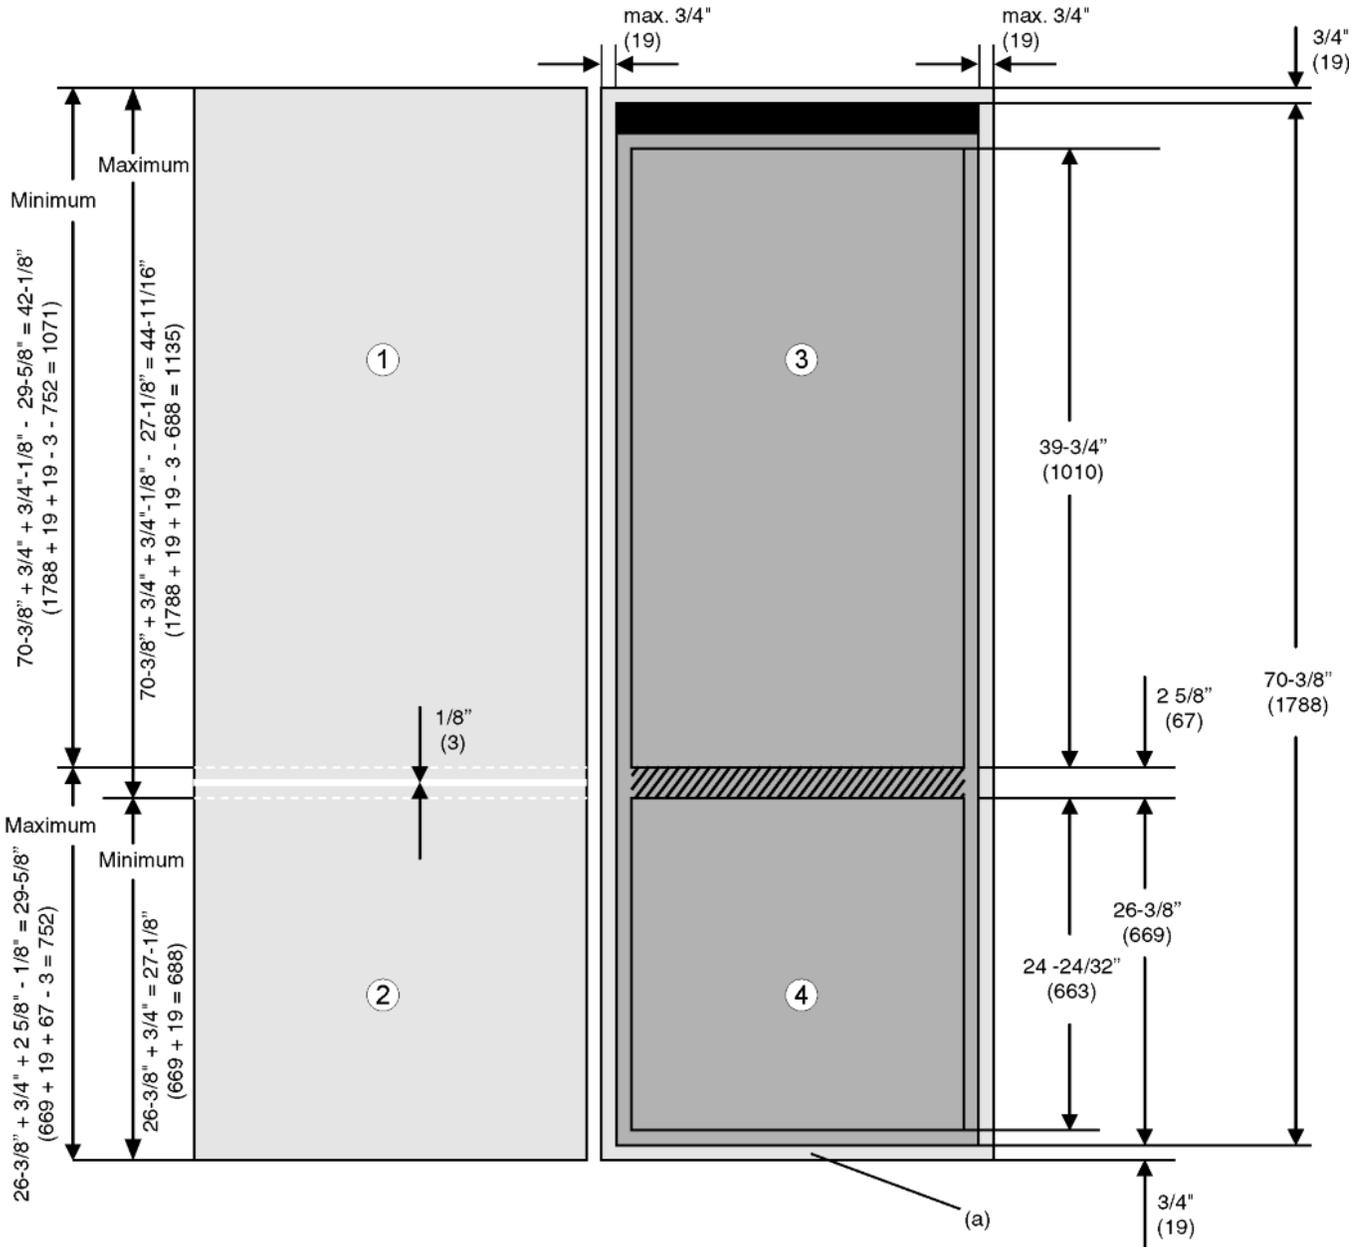

Fig. 4
► In order to cover the front of the floor plate Fig. 4 (a): extend the plate height to 26-3/8 in. (669 mm).
► In order to cover the front of the floor plate Fig. 4 (a): extend the plate height to 26-3/8 in. + 3/4 in. = 27-1/8 in. (669 mm + 19 mm = 688 mm).
If no cabinet doors have yet been fitted, the gap between the freezer section door *Fig. 4 (4)* and the fridge section door *Fig. 4 (3)* is 2-5/8 in. (67 mm). After the cabinet doors have been fitted the gap between the two doors *Fig. 4 (1,2)* is about 1/8 in. (3 mm) and must be inside the hatched area.